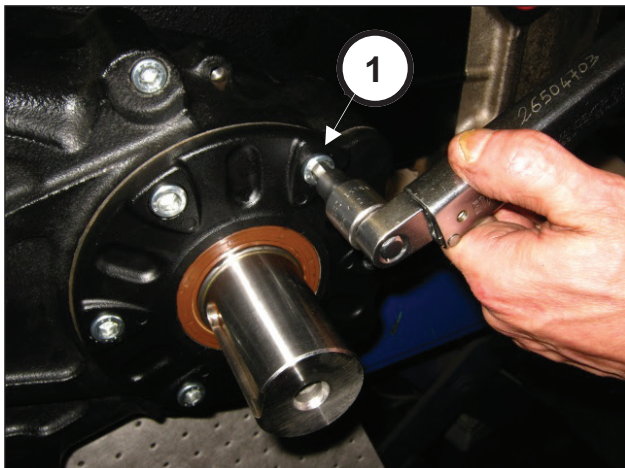

Fig. 95
Tighten the 6 M10x25 screws (pos. ①, Fig. 95). Calibrate the screws with a torque wrench as indicated in chapter 3 SCREW TIGHTENING CALIBRATION.